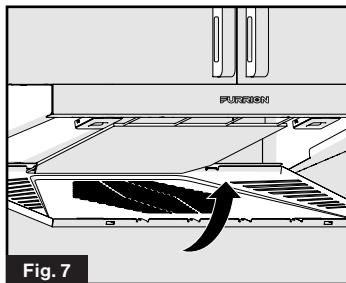

Fig. 7
7. Replace the grill cover to the range hood and press the release tabs until you hear a click. (Fig. 7)